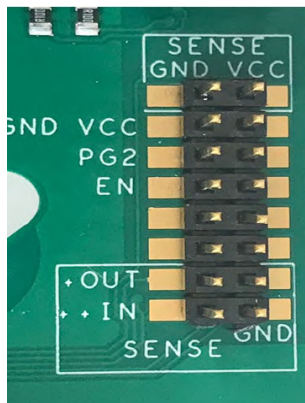

Figure 5
- Connect external Vcc through **Test connector 6** (Figure 5).
The test connector (Figure 5) used in few purposes: